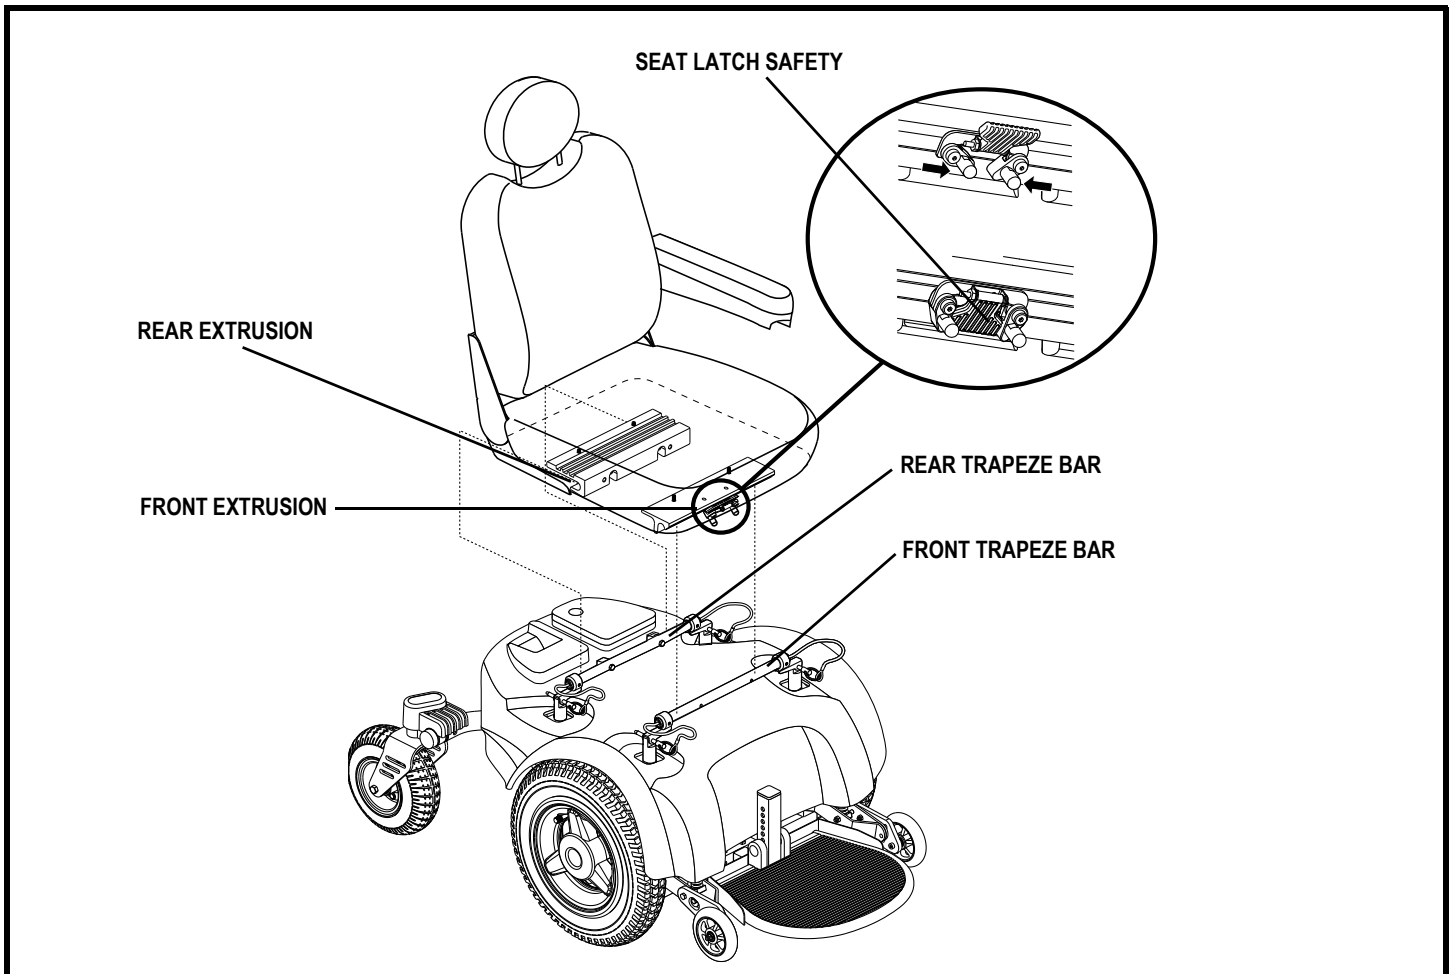

Figure 10. Seat Installation
It may be necessary to install the seat either prior to initial operation or after transporting your power chair. Most seats are attached to the power base with the Universal Mounting System (UMS). The UMS consists of universal parts that may be attached to any high-back seat, regardless of seat width or seat depth. The two main components are aluminum extrusions mounted to the seat base. These extrusions attach to a pair of trapeze bars that are mounted to the power base. See **figure 10**. If your power chair is equipped with a Synergy Seat or a TRU-Balance Power Positioning System, refer to the information provided in separate manuals.
2. Tilt the seat back and slide the rear extrusion onto the rear trapeze bar. **See figure 10.**